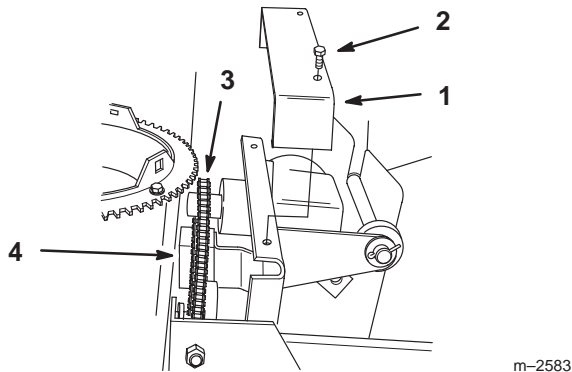

Figure 37
2. Remove chain cover (Fig. 37).
3. Adjust chain tension block so chain deflects 3/8" to 5/8" between sprockets (Fig. 37).
4. Install chain cover with (2) 1/4 x 1/2" bolts (Fig. 37).